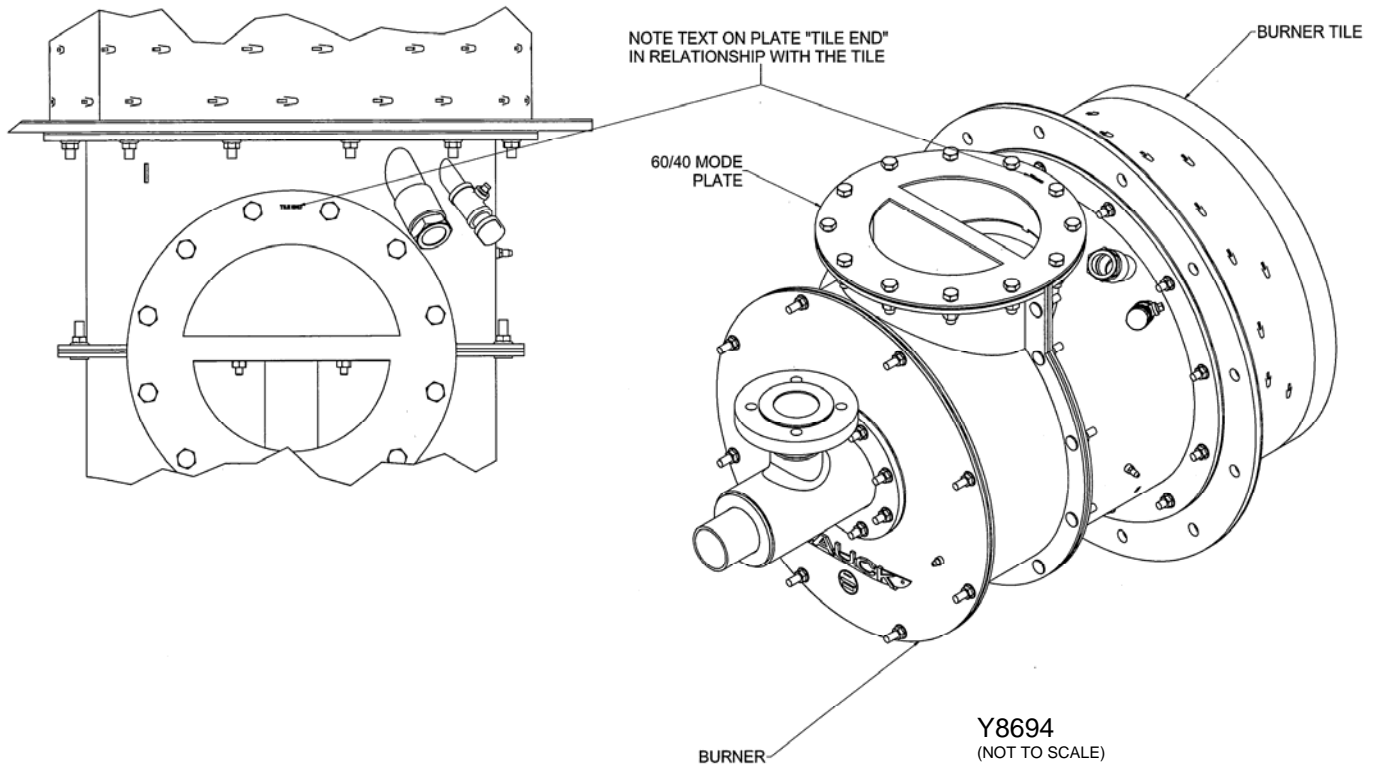

Figure 3. Installation and Alignment of the Firing Mode Plate
3. If using the **Firing Mode** only Series (1000 or 2000 Series burners without switching valve), the air orifice plate must be installed in the correct position. Note the location of the “TILE END” text on the plate, and install the plate with this text closest to the burner tile. (See Figure 3)